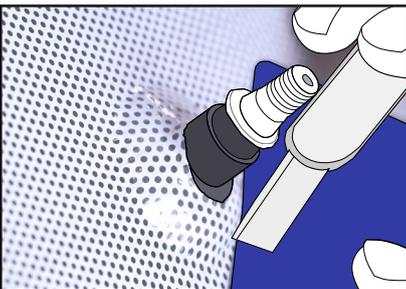

Figure 22
- › Move the squeegee and the cutter at the same time, along the rubber protection of the wiper shaft, to cut the film. (FIG. 22)